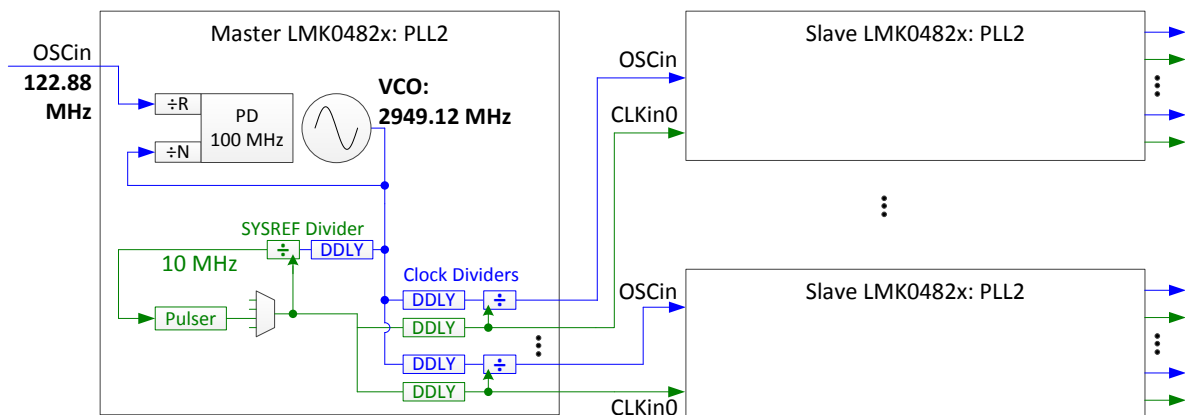

Figure 13 - Tree using multiple LMK0482x
- In single PLL mode, the VCO will perform jitter cleaning above the PLL2 loop bandwidth, this typically means that noise floor remains constant, but that the in-band PLL noise will experience some increase at each level of the tree. It is possible to narrow the PLL2 loop bandwidth to achieve jitter cleaning above 10 kHz with good results. Figure 13 illustrates a tree of multiple single loop LMK0482x devices.